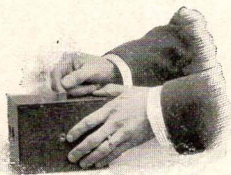

Fig. 1.
I. Take a position at a table as far as possible from any window and pressing on the bottom of camera near the tripod socket with the left hand pull out the brass catch as indicated in Fig. 1 and take the roll holder from the box. See Fig. 2.